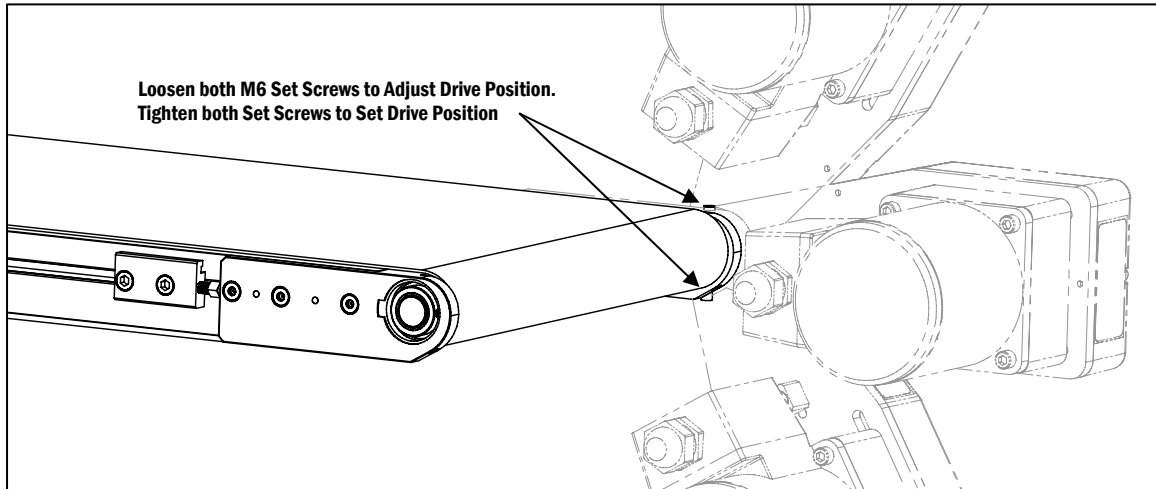

Figure 8
e. Loosen the M6 set screws in the top and bottom of the Mounting plate, and orient the drive package into the desired position for operation. Tighten the set screws, **using caution to keep hands and fingers away from the Rotate Plate should it swing down**, until the set screws are securely fastened. (Figure 8).